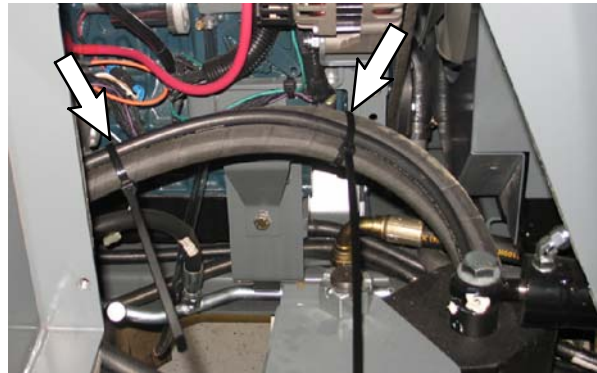

FIG. 3
6. Route the hydraulic hose (1) toward the hose clamp located on the inner side of the operator compartment and use two cable ties (2) to secure the hydraulic hose to the other two hoses it is routed near. Refer to Fig. 3.